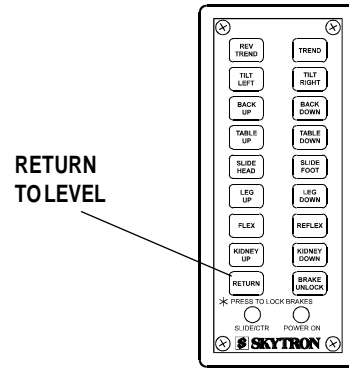

Figure 2-12.
j. Return To Level. To return the table top to a level position, press the RETURN button (figure 2-12).